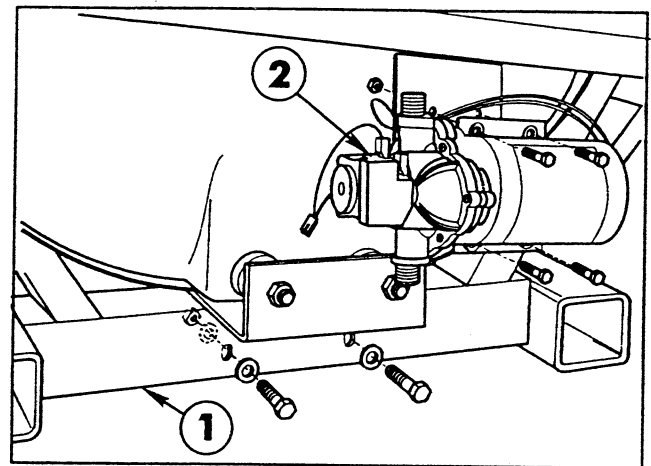

FIG. 15
5. Secure the rear Saddle Angle to the Vehicle's cross member with two (2) 1/2" x 1-1/2" cap screws, flat washers, lock washers and hex nuts. See FIG. 15.
6. Mount the Rinseate Pump to the rear Saddle, using four (4) #10 x 1-1/4" machine screws, eight (8) flat washers and four (4) lock nuts.